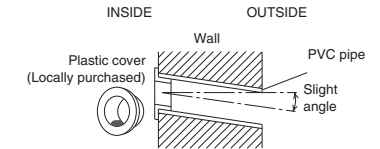

Fig. 3-79
- (6) Place the plastic cover over the end of the pipe (for indoor side only) and insert the pipe in the wall. (Fig. 3-79)